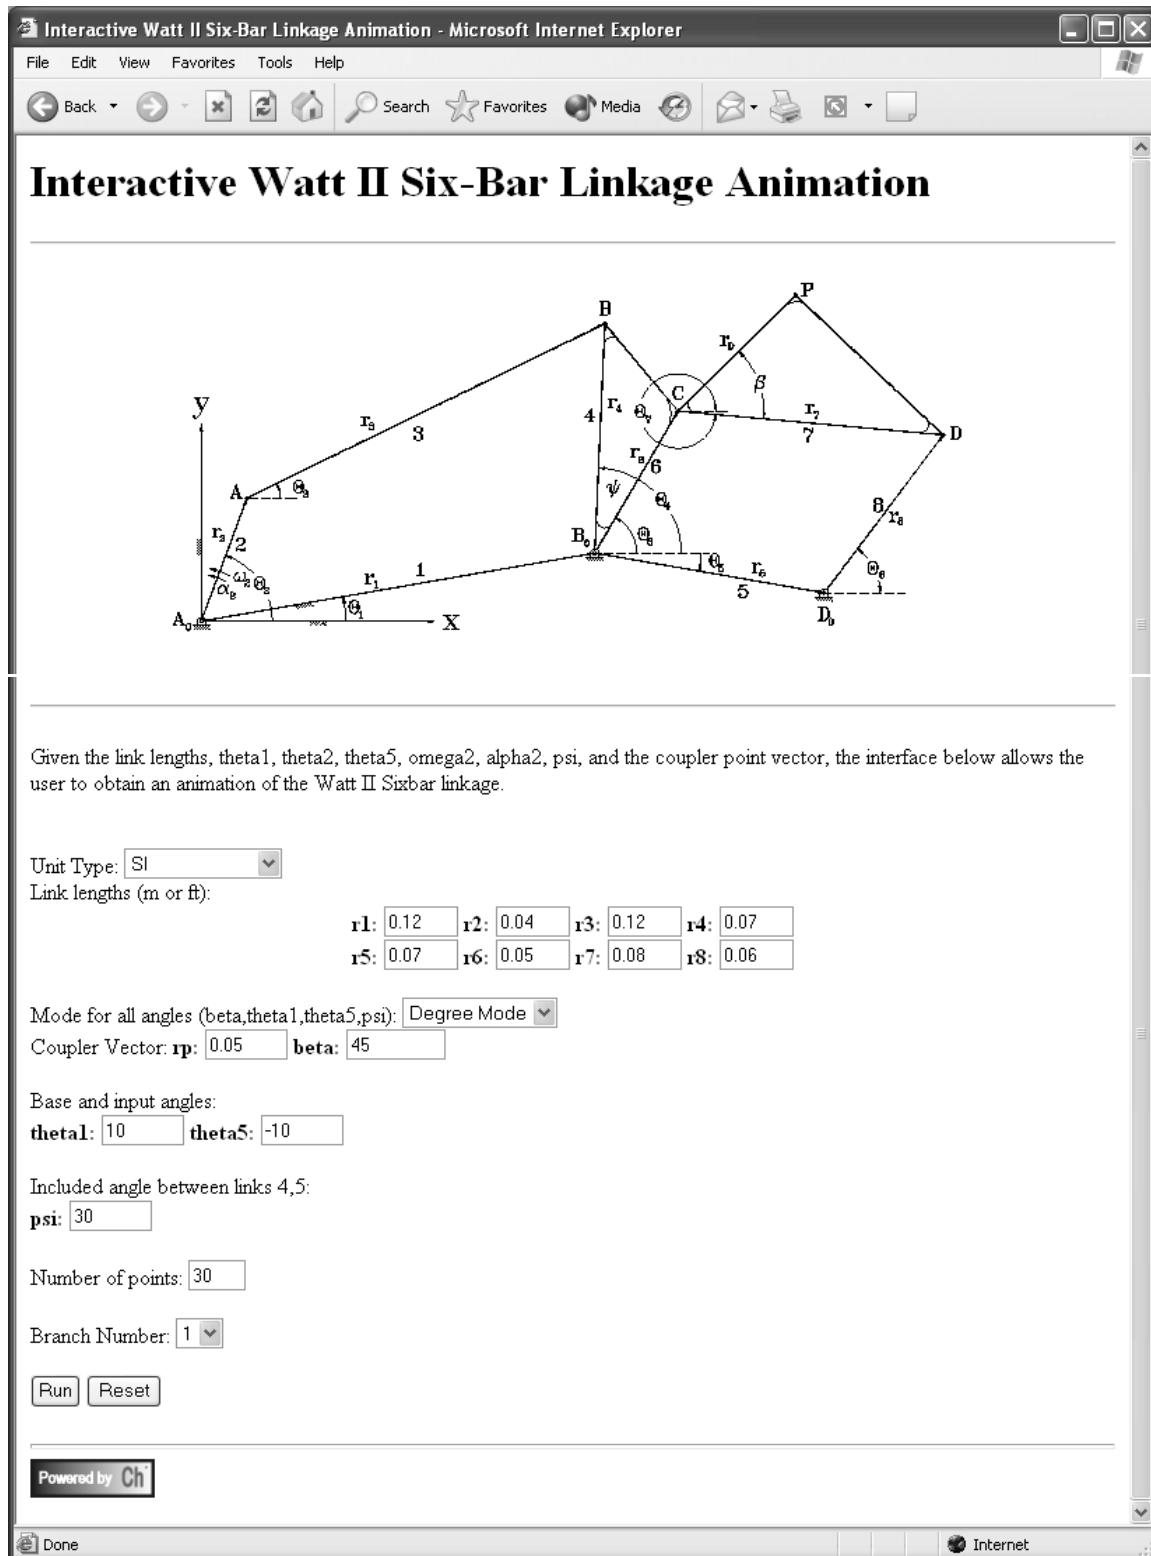

Figure 5.18: Web page for Watt (II) sixbar linkage animation.
For the animation web page shown in Figure 5.18, Figure 5.20 shows the output of running the web page to simulate the motion of Watt (II) sixbar linkage. The output is a snapshot of animation for the first geometric inversion of the defined mechanism.